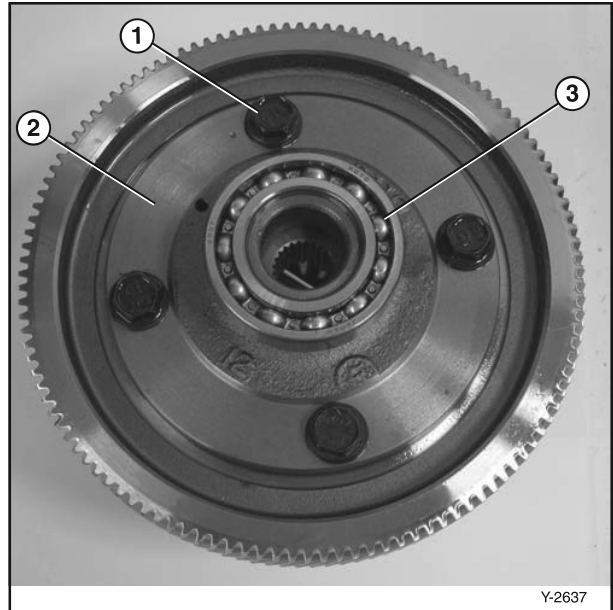

Figure 6-93
10. Install the ring gear (Figure 6-93, (2)) to the differential assembly. Tighten bolts and nuts (Figure 6-93 (1)) to specification. (Figure 6-93, (3)) shows the bearings as well.